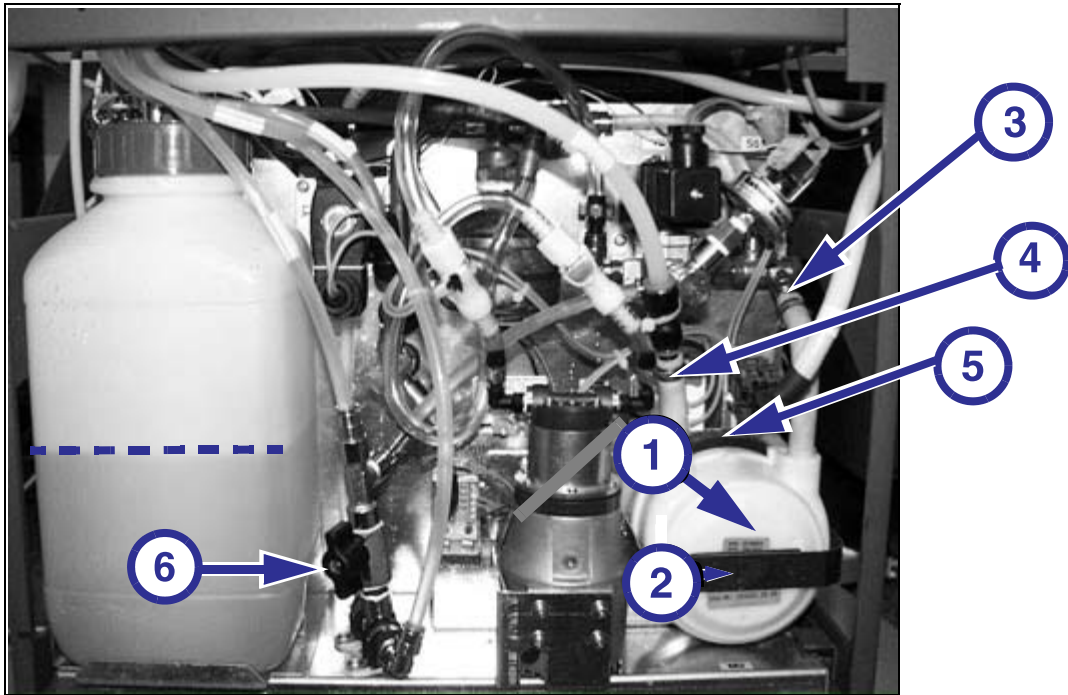

Fig. 33: Cooling unit_
- Place the hose pump head on the drive axle (1/Fig. 33 / p. 30).
- Press up or down on the black latch (5/Fig. 33 / p. 30).
- Attach the safety bracket (2/Fig. 33 / p. 30).
- Establish the hose connections (3/4/Fig. 33 / p. 30).
- Open valve Y8 (6/Fig. 33 / p. 30), i.e., control lever Y8 horizontal = closed, vertical = open.